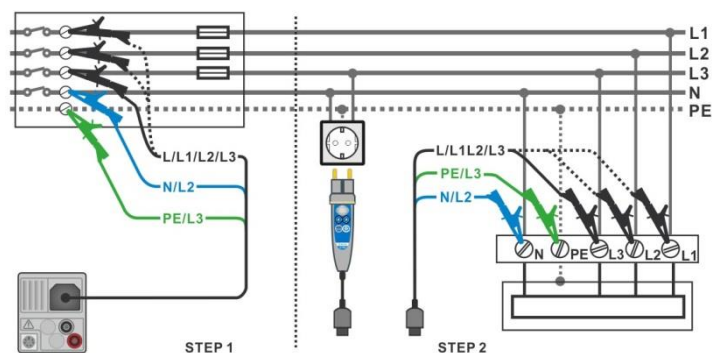

Figure 7.85: AUTO TT measurement
- Connect test leads or Plug commander to the object under test, see **Figure 7.85**.